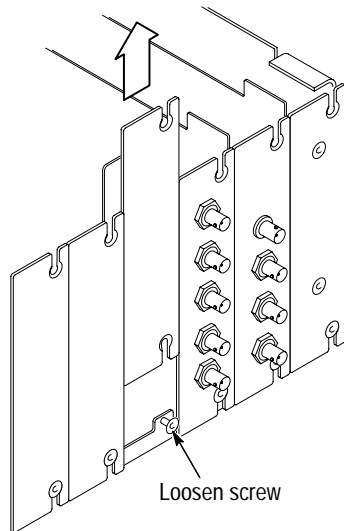

Figure C-3: Rear panel removal
4. Remove the appropriate rear panel as shown in Figure C-3. Loosen, but do not remove the bottom screw. You will use it later to secure the module.
4. Remove the appropriate rear panel as shown in Figure C-3 on page C-4. Loosen, but do not remove the bottom screw. You will use it later to secure the rear panel.